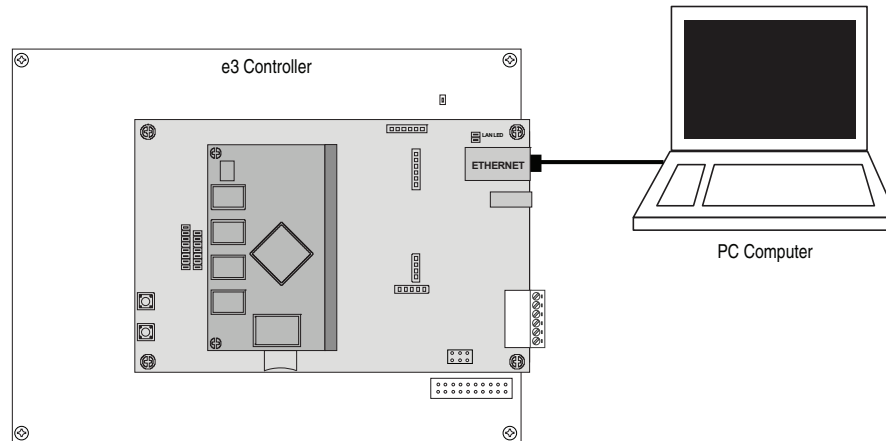

Figure 7.1. Connecting to the e3 Controller
1. Connect your programming computer directly to the Ethernet port of the e3 Controller as shown in Figure 7.1. A standard Ethernet CAT-5 cable is used for the direct connection. (You may also connect the computer and e3 Controller to an Ethernet Switch.)